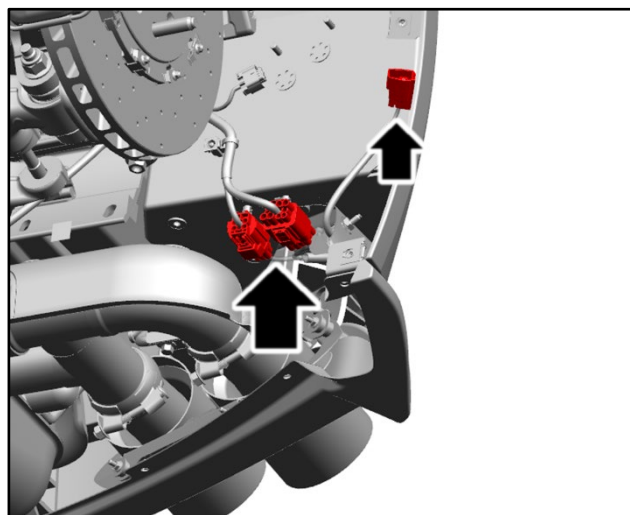

Figure 11
18. Disconnect the three electrical connectors on the two sides of the vehicle (refer to Figure 11).